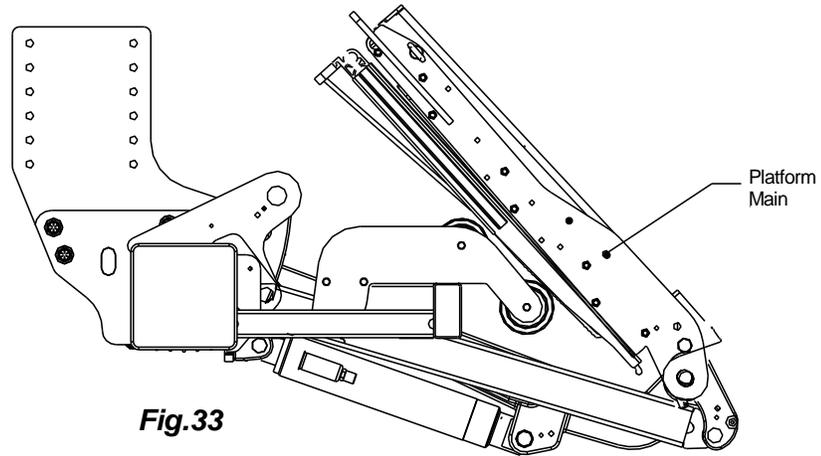

**Fig.32**
3. **Set "F" Dimension:** "F" Dimension should be determined from Section 7 of this manual. Use floor jack or equivalent to position the frame assembly up to the required "F" dimension, **Fig.32**. Use a second jack to level out the under ride guard, if necessary. Check for squareness vertically and horizontally. 12V power supply may be required to release pressure on lift cylinder valves, if power is required continue to the Electrical Installation in Section 10.